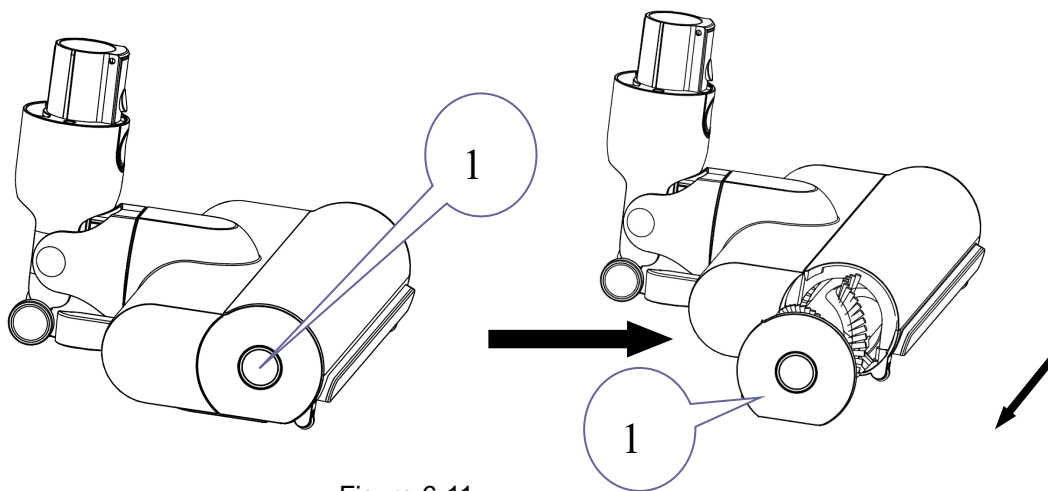

Figure 6-11
7.4 Error code 108; the roller brush is stuck. Press the release key (NO.2), and take out the roller brush, as shown in Figures 6-11 and 6-12, and clean the hair and garbage off the roller brush